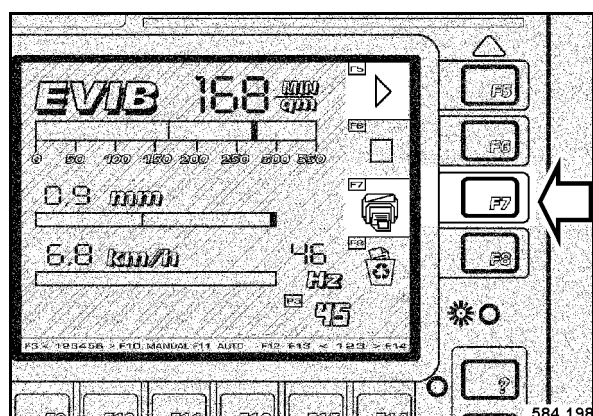

Fig. 100
- At the end of the measurement press push button F7 "PRINT" (Fig. 100).